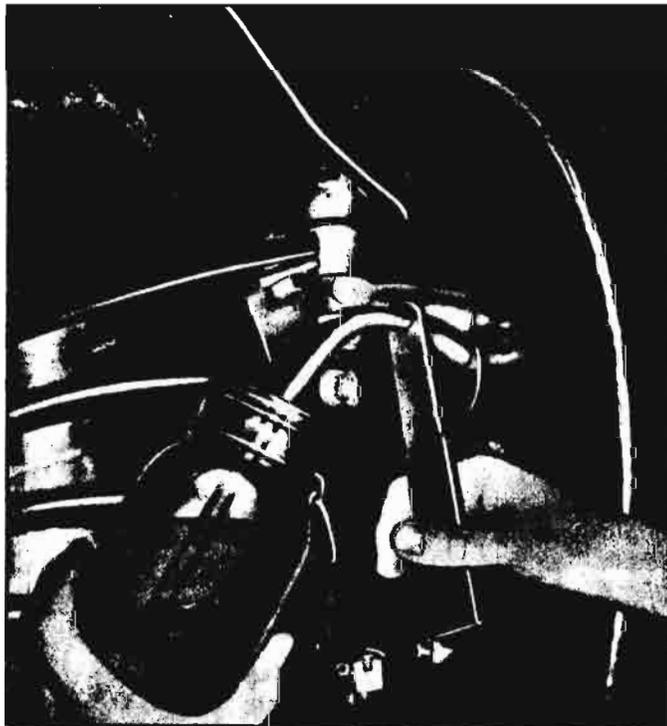

Fig. 5-5—Bleeding Brakes Using Tool J-7647
3. Remove bleeder valve dust cover. Install Tool J-7647 on bleeder hose. Position one end of hose on bleeder valve, placing other end of hose in a transparent container holding sufficient fluid to cover end of hose (fig. 5-5).
3. Remove bleeder valve dust cover. Install Tool J-7647 on bleeder hose and position one end of hose on bleeder valve, placing other end of hose in a transparent container holding sufficient fluid to cover end of hose (fig. 5-5).